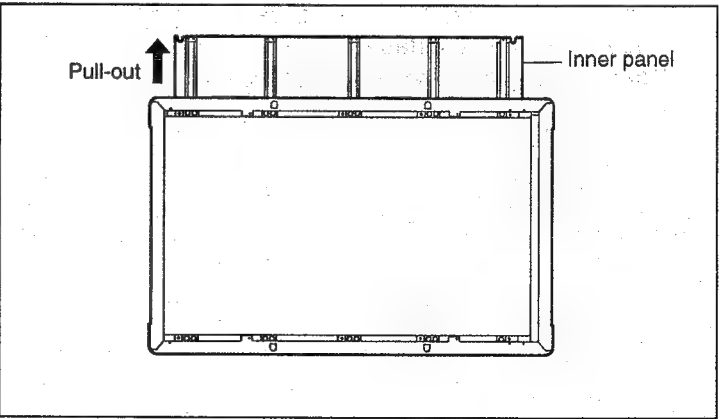

Fig. 7-19
- 15) Remove the inner panel as shown in Fig. 7-19.